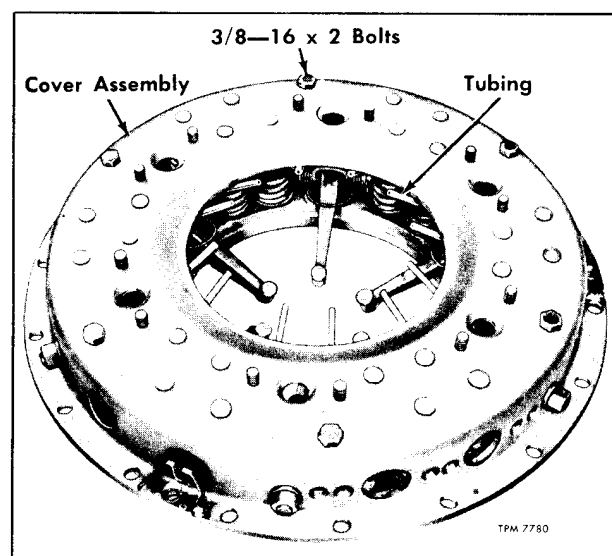

Figure 18—Installing Cover Plate on Pressure Plate
3. When insulating washers (10) and springs (11) are in position, set cover (12) over springs (11), fitting each spring guide on cover into corresponding spring. Cover must assume original position in relation to pressure plate. Refer to alignment marks made at disassembly to determine correct position. Drive blocks (34) must enter slots in pressure plate.
4. See that ends of springs (27) do not catch under cover. Pieces of tubing 1/4 inch by 4-1/2 inches long may be placed on spring ends shown in figure 18, to guide ends of springs past cover.
5. Install six bolts (3/8" - 16 x 2", fig. 18) through holes in cover plate, starting each bolt into tapped hole in pressure plate, then tighten alternately and in gradual stages to compress springs (11) and bring threaded ends of yokes (30) into respective holes in cover plate. Guide yokes through holes as bolts are tightened.
and ready to be assembled to flywheel. Bolts (fig. 18) must remain in place until cover to flywheel screws have all been installed, then they must all be removed to allow clutch springs (11) to operate.